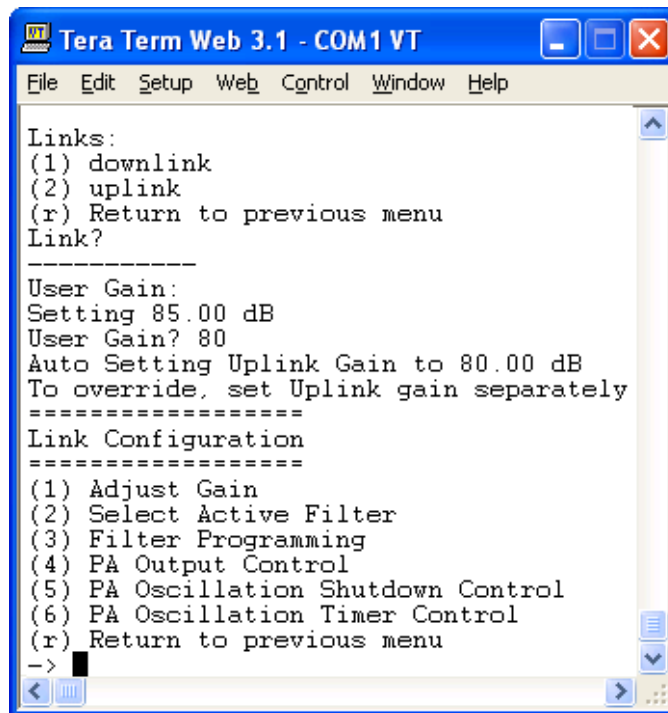

Figure 4-9: User Gain
After selecting option **(1) downlink**, the current user gain is displayed and the option to change it is accomplished by typing the desired gain at the prompt. The user is then returned to the previous menu as shown in Figure 4-9.